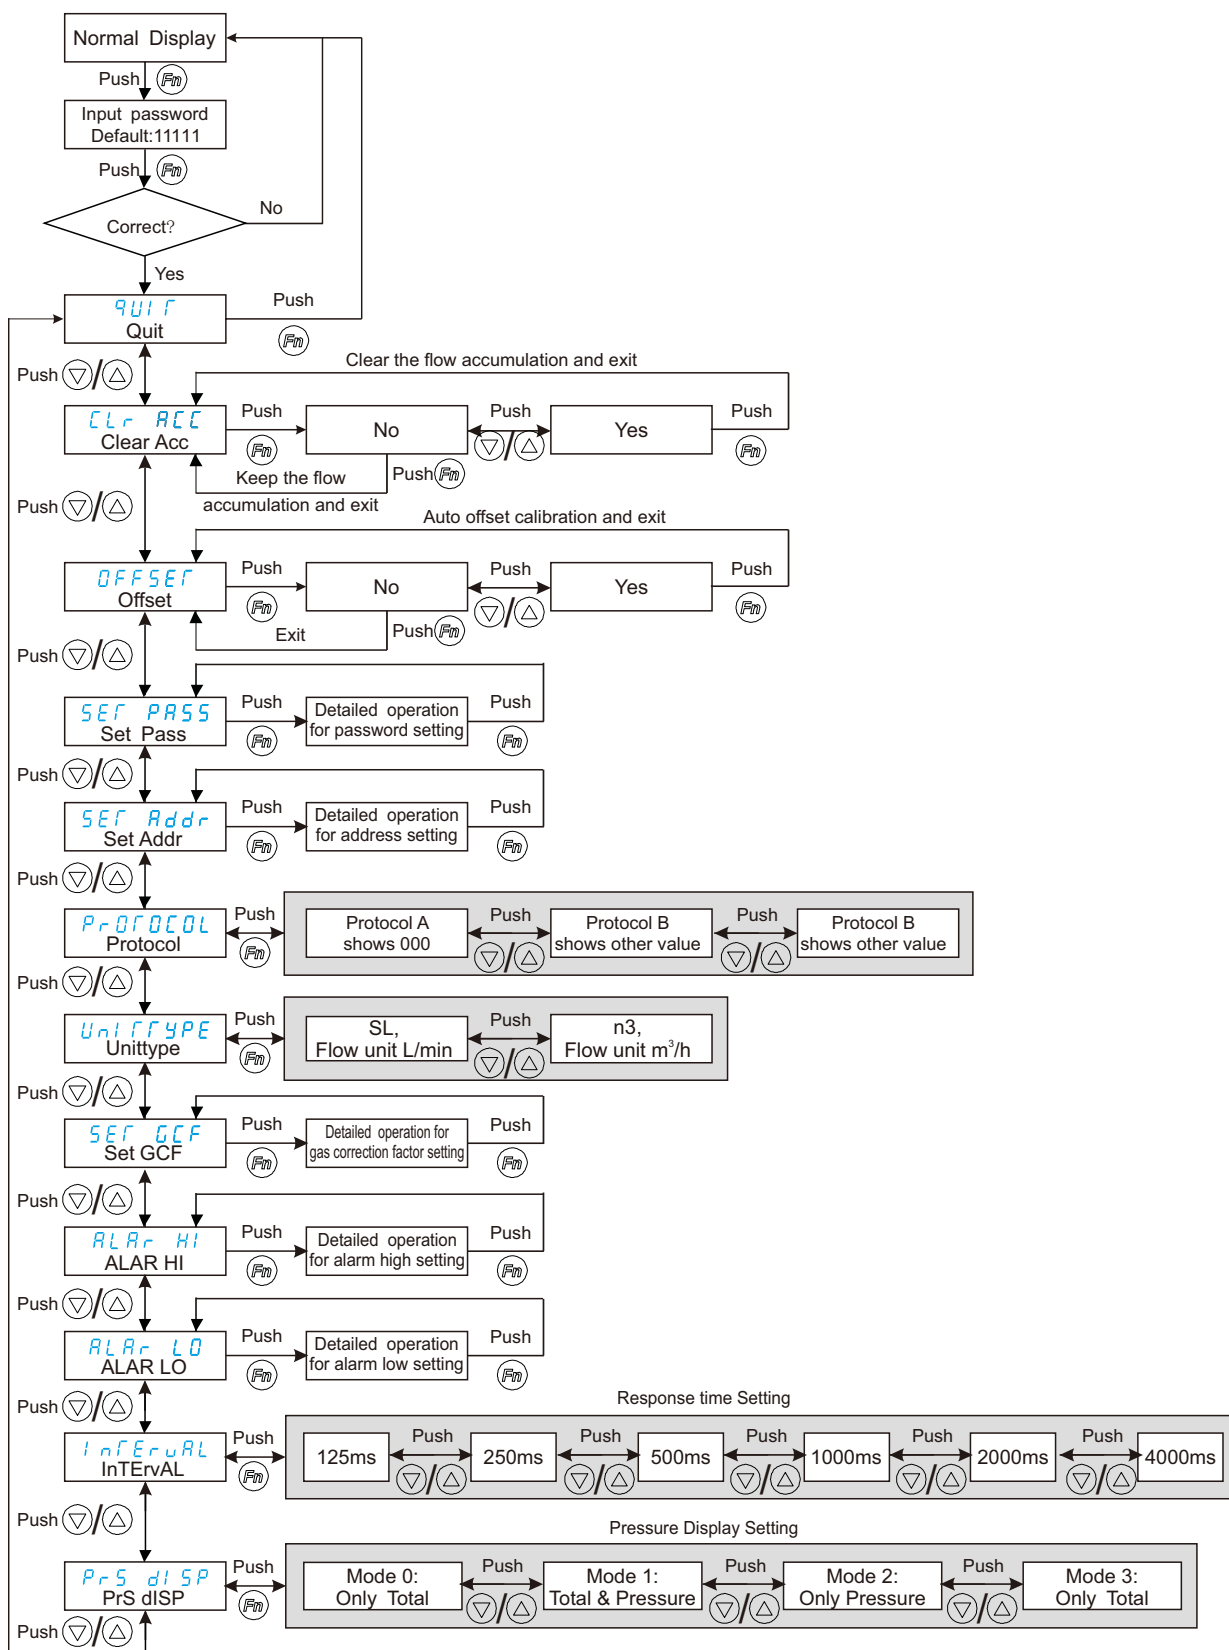

Figure 6-6 Buttons operation
(2) Password interface (Figure 6-6):